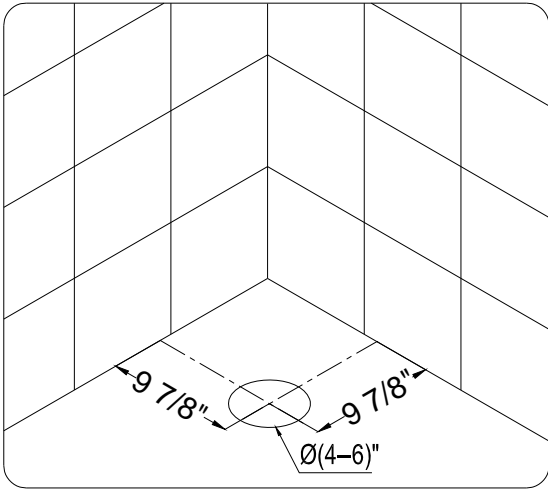
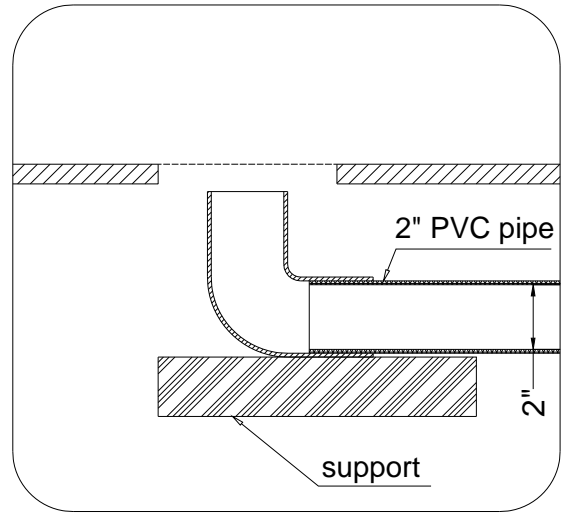

Fig 1
Fig 2
1. Choose the location where you cabin will be installed. Mark the location of the tray. Install the drain pipe according to drawing Fig 1. Be sure the upper edge of the 2" elbow or bushing will be on the level or below the floor level Fig 2.